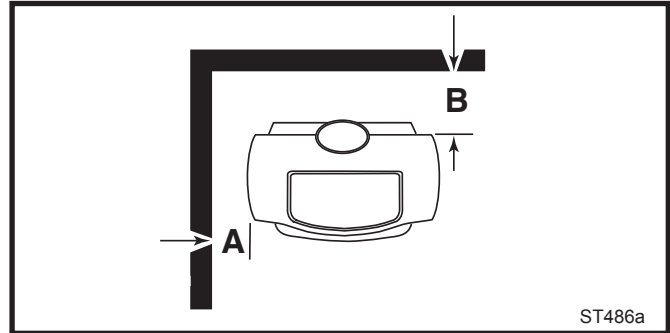

Fig. 13 Minimum clearances.
**Minimum rear clearance from combustible walls (e.g. timber framed or studded walls) 610 mm (24") for Models 2460CE and 900 mm (353/8") for Models 2461CE, 2462CE measured from the rear edge of the stove top. (Fig. 13, B)**
**Minimum side clearance from combustible walls 610 mm (24") for Model 2460CE and 700 mm (271/2") for Models 2461CE, 2462CE measured from the side edge of the stove top. (Fig. 13, A)**